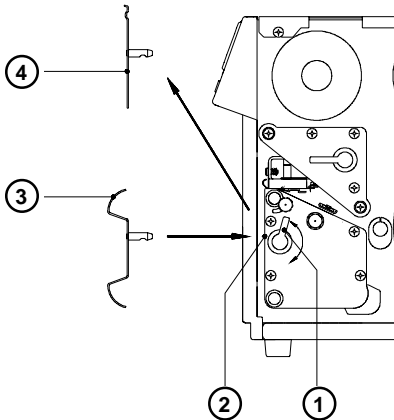

Fig. 13 I Mounting the rewind guide plate
Fig. 13 b Selecting the method of rewinding
Fig. 13 c Power supply module of the external rewinder
Fig. 13 d Rewinding directly onto the rewind axle
2. Feed the label strip over the guide bar and under the roller onto the rewinder axle (4) as shown in Figure 13 d.
3. Considering the required method of rewinding, attach the label strip appropriately to the rewinder axle (4) by sliding the clamp (5) over the label strip with the clamp set in the groove. (the broken line shows the path of inside rolled labels)
**Fig. 13 e Rewinding onto 3 in (75 mm) cardboard cores
1. Use a cardboard roll (3) which is about .04 in (1 mm) wider than the label strip.
3. Mount the first axle adapter (4) onto the rewinder axle (2) and slide it up to the disc (1). Tighten knurled screw (5).
4. Mount the second adapter onto the rewinder axle (2). Slide it towards the first adapter until the clearance between the edge of the adapter and the disc (1) is a little less than the width of the cardboard roll (3). Tighten knurled screw (5).
5. Slide the cardboard roll (3) over the two adapters (4) until it is touching the disc (1).
6. Feed the label strip over the guide bar and under the roller as shown in Figure 13 e up to the cardboard roll (3).
7. Using adhesive tape or a label, affix the end of the label strip to the cardboard roll (3). (the broken line shows the path of inside rolled labels)
8. Slide flange onto the rewind axle (2) until it stops at the cardboard. Tighten knurled screw.
Fig. 13 f Mechanical mounting of the cutter
Fig. 13 g Electrical connection of the cutter
Fig. 13 h Dismounting the lid
Fig. 13 i Mounting the internal rewinder (1)
3. Turn the whole assembly counterclockwise, so that the accessible hole in the flange (7) matches with the threaded hole (3) on the mounting plate.
4. Fix the rewinder at this point with on screw (2).
5. Turn the rewind plate (8), so that the two other holes (11,12) become accessible one after the other and insert screws at this two positions too.
6. Tighten all screws (10).
Fig. 13 k Mounting the internal rewinder (2)
Fig. 13 m Inserting the labels
1. Lift printhead by turning the lever (5) clockwise until it stops.
2. Loosen knurled screw (9), then swing the media retainer (8) backwards.
3. Place the media roll (6) onto the media hub (7). Swing the media retainer (8) to the media hub and inwards until it rests against the side of the roll (roll will slightly be slowed down when unwound). Tighten knurled screw (9).
5. Unroll a length of stock from the media roll and feed along as shown in Figure 13 m.
Fig. 13 n Mounting of the present sensor
Fig. 13 o Inserting the labels for peel-off
1. Lift the printhead by turning the lever (7) clockwise until it stops.